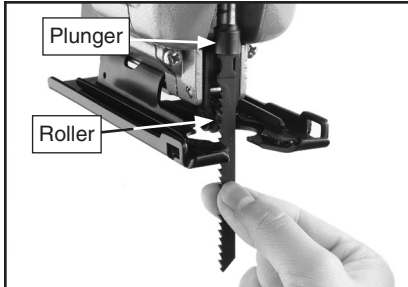

Figure 5. Inserting blade into plunger.
3. Take the blade and turn it so the teeth are facing the side of the footplate, then insert the T-Shank end into the plunger, as shown in **Figure 5**.